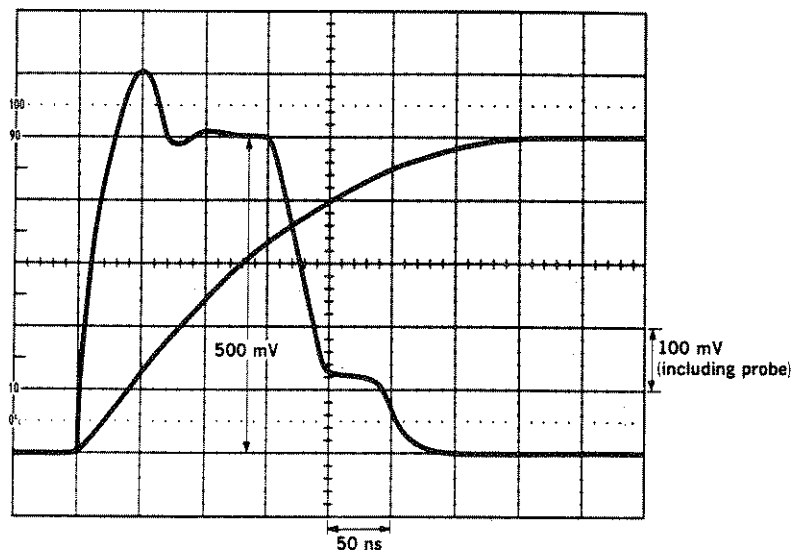

Figure 5-14. Check Stray Calibration Oscilloscope Trace
STEP 19. Observe the waveform on the oscilloscope. There should be two pulses displayed, one for the Stress current and one for the Check current, as shown in Figure 5-14. The Stress current pulse should be about nine times as wide as the Check current pulse (because of the different voltages).